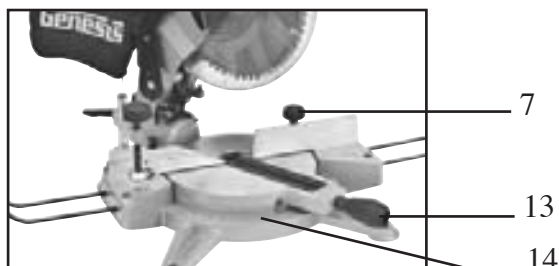

FIG 11
This miter saw will accurately cut any angle from the straight 90° cut to 45° left and 45° right. To rotate the miter table, loosen the Miter Lock Knob (7) one or two turns counterclockwise and then rotate the miter table to the desired angle using the miter handle (13). When the desired angle is reached, turn the miter lock knob (7) clockwise to lock the miter table in place. (FIG 11)